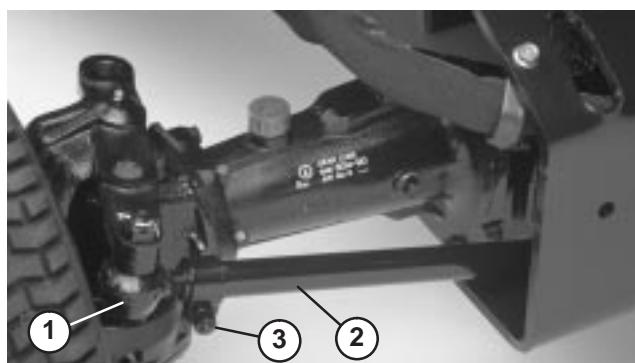

Figure 63
2. Remove cotter pin and nut securing one tie rod ball joint to mounting bracket on axle and disconnect ball joint from axle (Fig. 63).
3. Loosen screw on tie rod clamp (Fig. 63). Rotate ball joint in or out to adjust length of tie rod.